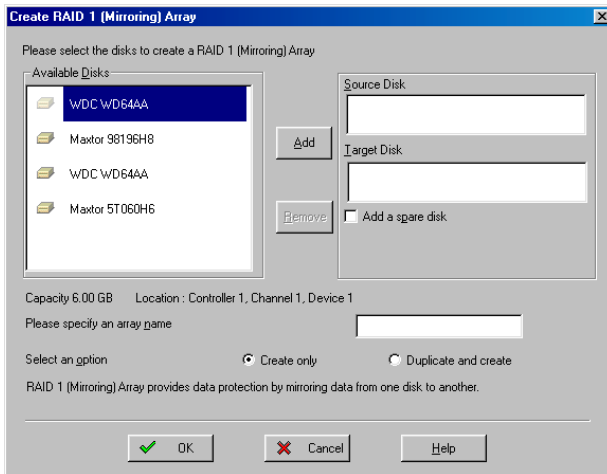

Figure 5-10 Create RAID 1 Menu
- 2 From the Available Disks screen, select the disk and click **Add** for Source Disk. Select another disk and click **Add** for Target Disk (see Figure 5-10).